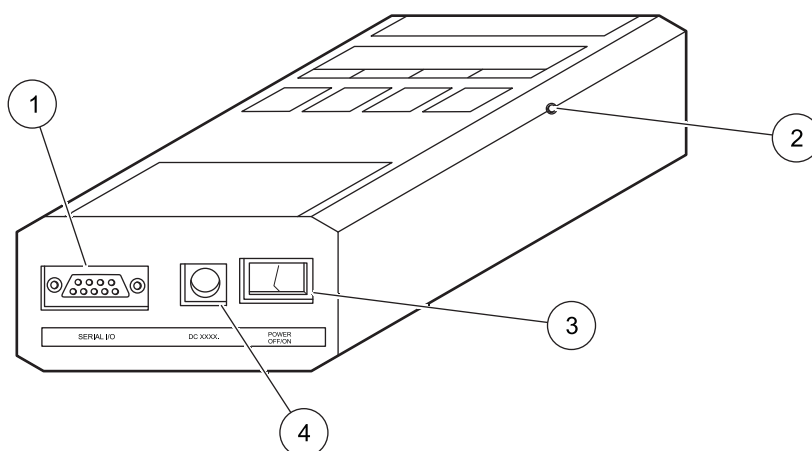
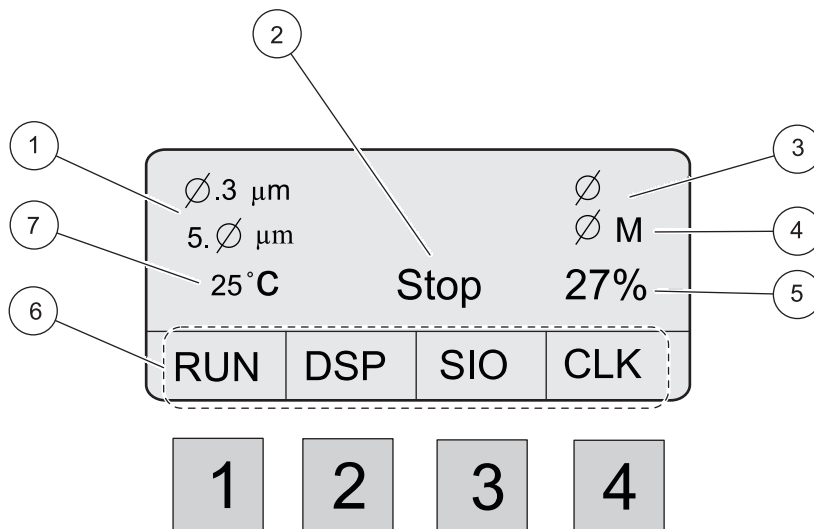

Figure 5 Connections and adjustments
Figure 6 LCD display
2. Attach the AC adapter to the power input jack (refer to Figure 5 on page 13) on the bottom of the MET ONE 227 particle counter.
The power and serial I/O connectors and the power switch are at the bottom of the counter. The brightness of the display may be adjusted for optimum performance in various ambient light conditions as shown in Figure 5.
Use the power switch at the bottom of the counter to turn on the MET ONE 227 particle counter (refer to Figure 5 on page 13, item 3). When first turned on, the counter will display the main screen (Figure 6 on page 16). The MET ONE 227 particle counter exhibits various counting modes. The factory default setting for the counting mode will be the Manual mode.
1. Press **1** on the front panel (refer to Figure 6). The pump will begin to operate. The count cycle status will change from “Stop” to “Wait” for two seconds while the pump reaches maximum speed.
The count cycle status (refer to Figure 6, item 2) will change to “Run” during the 1-minute sample and return to “Stop” at the end of the count cycle. The MET ONE 227 particle counter draws 0.1 cubic foot of air through the instrument. Multiply the results by ten to calculate the particle counts per cubic foot.